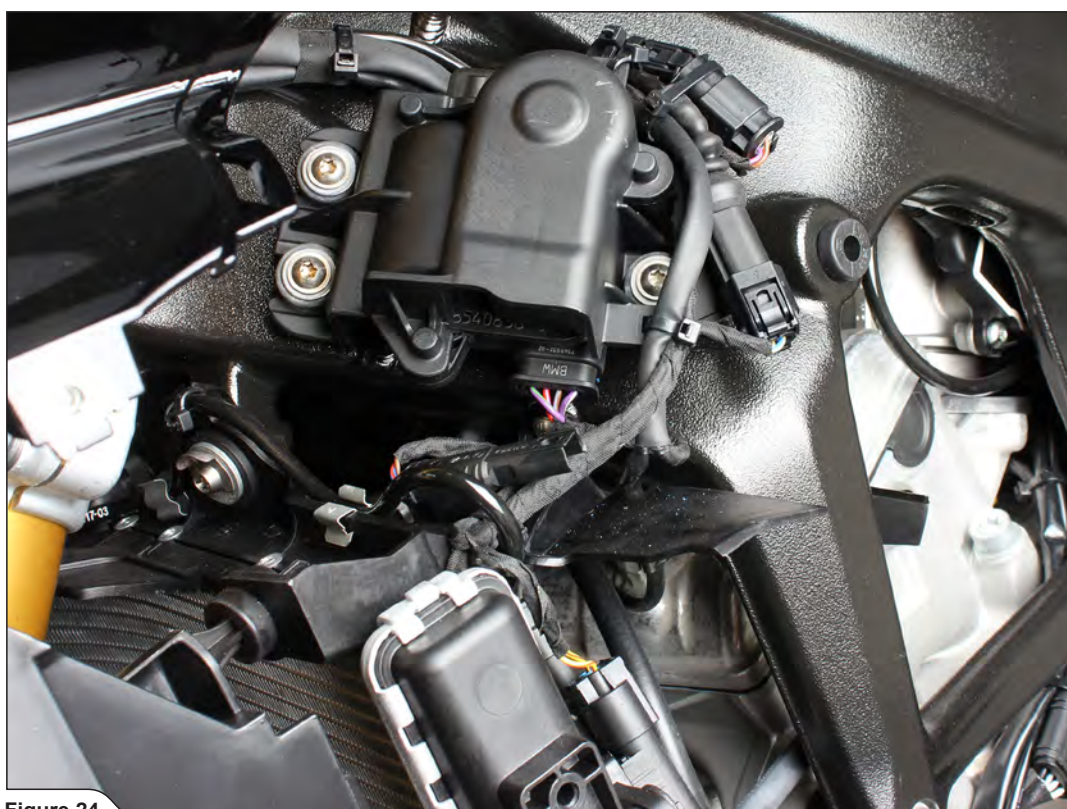

Figure 24
18. Reconnect and reinstall the servo motor back onto the chassis (Figure 24).